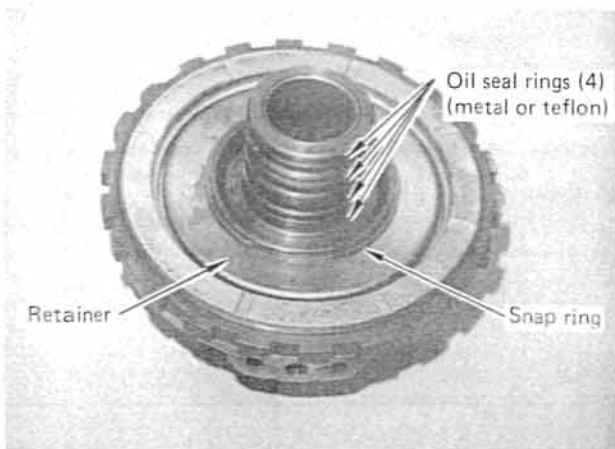

FIGURE 29
**STEP 4.** Remove and discard four metal hook-type or teflon seal rings from the front of the center support. (See Fig. 29) Remove the spring retainer snap ring. Remove retainer and three to twelve return springs. Remove and discard two rubber lip seals. Put springs, retainer and snap ring in oil pan.